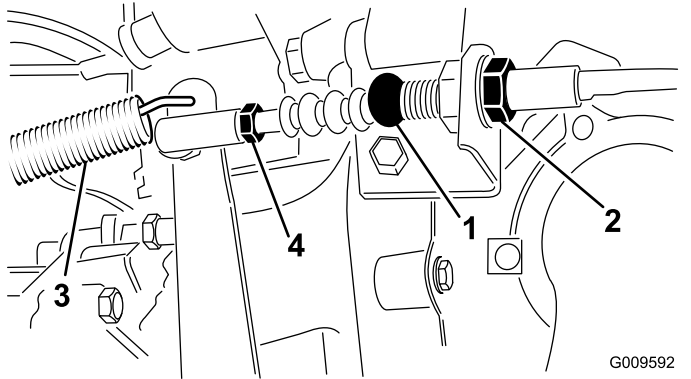

Figure 70
1. Loosen the jam nuts securing the clutch cable to the bracket on the bell housing (Figure 70).